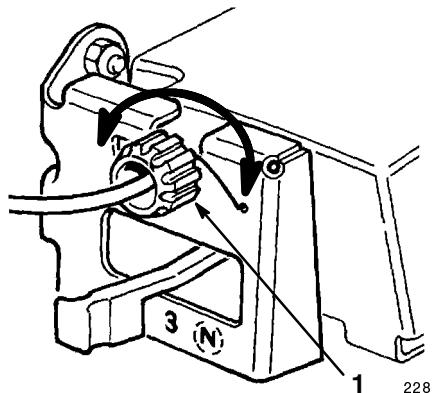

Figure 29
2. Rotate the control knob clockwise $\frac{1}{2}$ turn if the lawn mower does not self-propel. If the lawn mower creeps forward, rotate the knob $\frac{1}{2}$ turn counterclockwise to loosen the belt (Fig. 29).